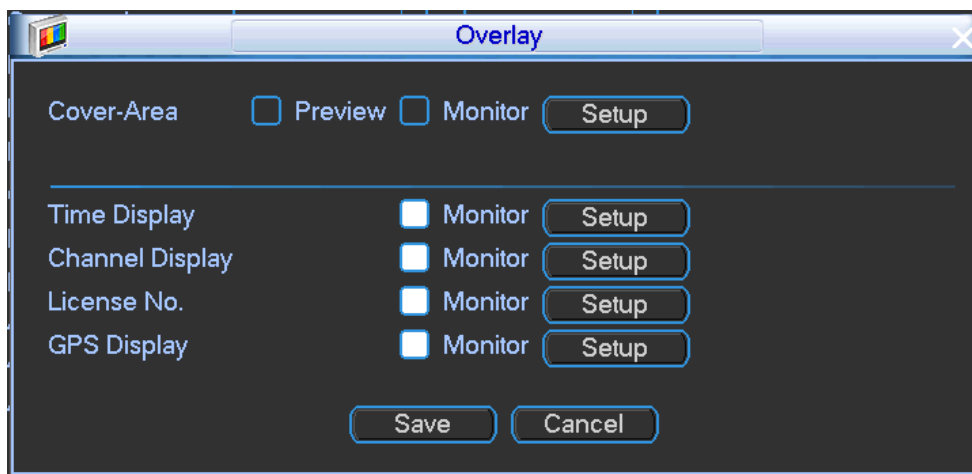

Figure 4-35
Step 1 From Main menu->Setting->Camera->Encode, click Overlay button, Enter Overlay interface. See Figure 4-35.